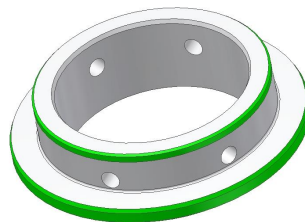
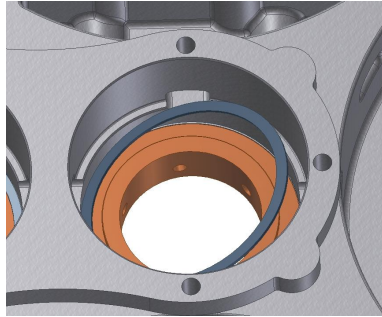

Figure 7-4 - LOCTITE 620 APPLIED TO INSERT
Figure 7-5 – RETAINING RING INSTALLATION
- 7c. Apply a continuous bead of Loctite 620 to bearing housing insert edges as shown in FIGURE 7-4.
- 7d. Place an insert (7) in one of the insert bores in the bearing housing with drilled ports closest to air side of the bearing housing.
- 7e. Orient inserts with drilled ports in 12:00 and 6:00 o'clock positions as shown in FIGURE 7-5.
8. Install a retaining ring (8) into groove in bearing housing by inserting one end into groove while pushing down around the circumference until the entire ring is in groove. Reference FIGURE 7-5.